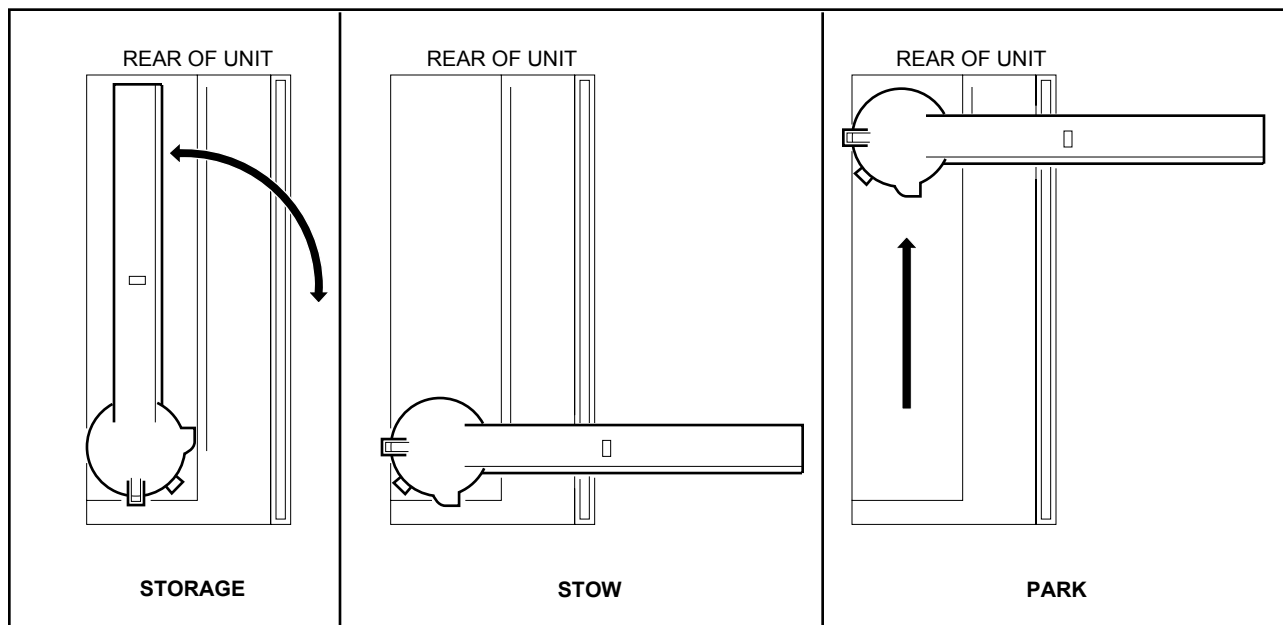

Figure 4. Dispenser Arm Positions
The dispenser arm can be rotated to conserve bench space when the Fraction Collector is not being used. There are three positions for the dispenser arm, as shown in Figure 4 and discussed below. Rotating the dispenser arm requires first lifting the green tab at the axis end of the arm. **Note:** Be sure the Fraction Collector is turned off before manually moving the arm.
1.	<p>Attach the diverter valve to the drop head as follows:</p> <ol style="list-style-type: none"> Select Stow from the Setup menu to move the dispenser arm to its Stow position. (See Figure 4.) Turn off power to the unit. Carefully slide the drop head to the end of the dispenser arm. Press down the catch on the side of the drop head and slide off the valve connector's protective cover. Gently slide the valve onto the connecting pins until a firm fit is achieved.